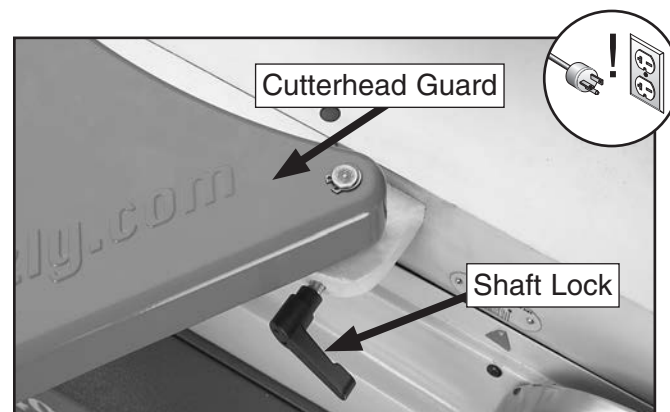

Figure 48. Cutterhead guard components.
2. Set fence to 90° and move it all the way back, then pull cutterhead guard (see **Figure 48**) and let it go.
3. Loosen shaft lock (see **Figure 48**). Move guard so it is resting against fence, and $\frac{1}{16}$ " above infeed table.